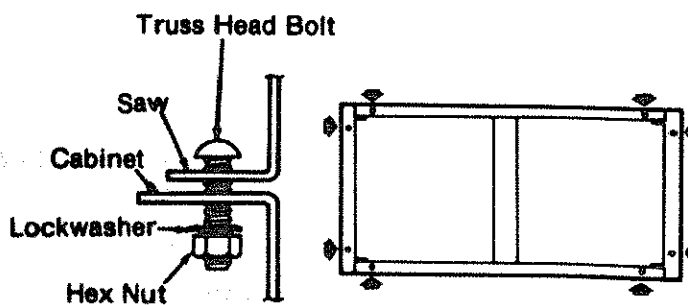

Fig. 69
2. Fasten the *saw* to the cabinet with eight truss head bolts. Put a lockwasher and hex nut on each bolt and tighten using a 7/16 inch wrench or socket. (Figure 69)